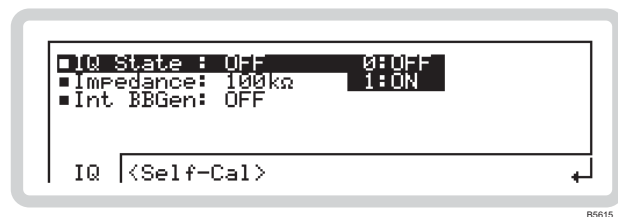

Fig. 3-64 External IQ, analog
- 2 Press **SIG GEN** to show the main screen, and touch the **IQ** soft box to select the function. Touch **IQ** and press **...** to view the external analog IQ modulation menu (Fig. 3-64).